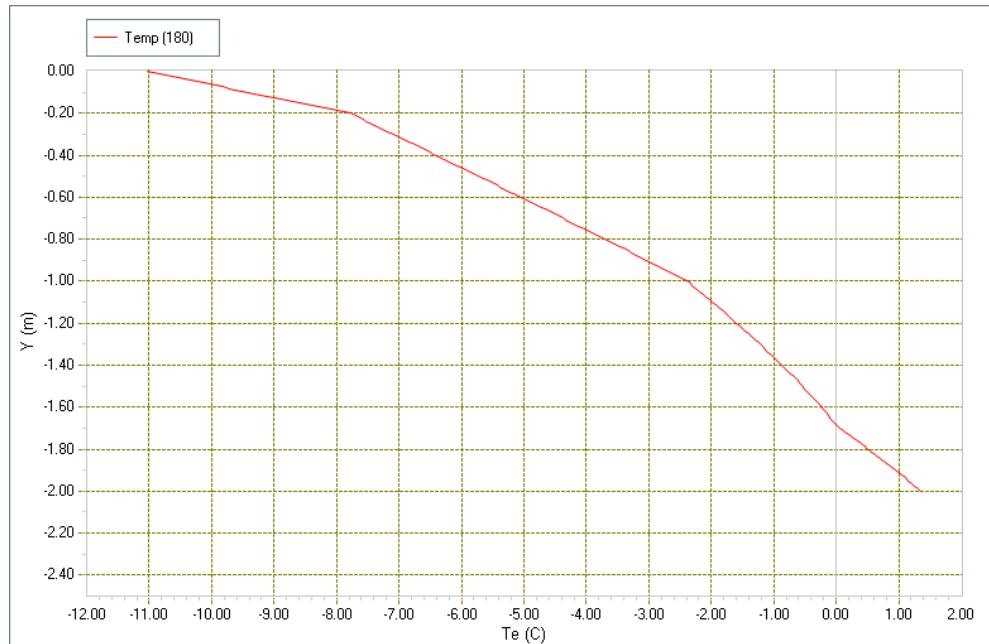

Figure 7 Temperature changing along elevation at the time of day 180
3. The temperature changing along elevation from 0 to -5 m at the time of 180 days is illustrated in Figure 7.